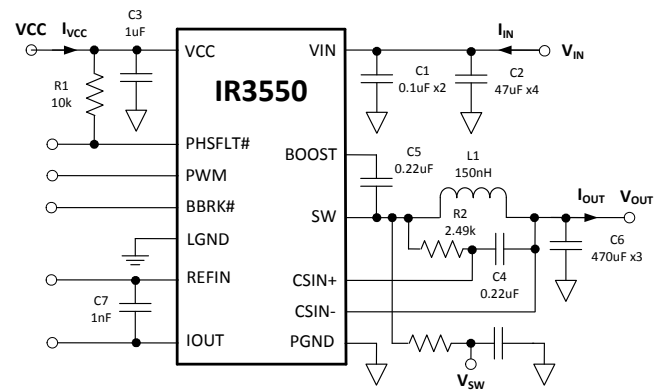

Figure 32: IR3550 Power Loss Measurement
Circuit of Figure 32, $V_{IN}=12V$, $V_{OUT}=1.2V$, $f_{SW} = 400kHz$, $L=150nH$ (0.29mΩ), $V_{CC}=7V$, $T_{AMBIENT} = 25^{\circ}C$, no heat sink, no air flow, 8-layer PCB board of 3.7" (L) x 2.6" (W), no PWM controller loss, no inductor loss, unless specified otherwise.
Circuit of Figure 32, $V_{IN}=12V$, $V_{OUT}=1.2V$, $f_{SW} = 400kHz$, $L=150nH$ (0.29mΩ), $VCC=7V$, $T_{AMBIENT} = 25^{\circ}C$, no heat sink, no air flow, 8-layer PCB board of 3.7" (L) x 2.6" (W), no PWM controller loss, no inductor loss, unless specified otherwise.
The single-phase IR3550 efficiency and power loss measurement circuit is shown in Figure 32.